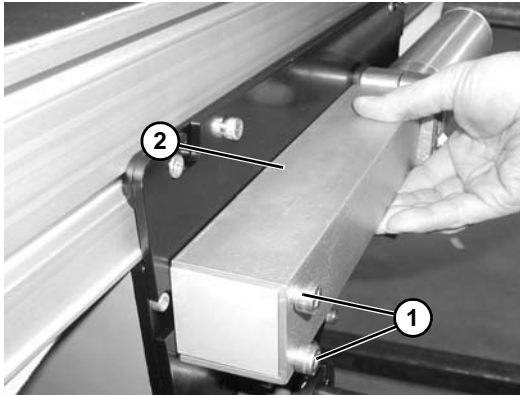

Figure 101
2. Remove screws (**Figure 101, item 1**) and tensioning guards (**Figure 101, item 2**) from both sides of center drive.